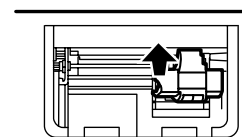

Fig. 2
- 3) Hold the top of the ink roller and remove the roller by pulling it toward you and then upward. (Fig. 2)